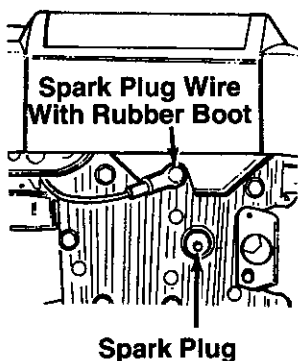

FIGURE 1.—Grounding the Spark Plug Wire
- ← Before setting up your lawn mower, disconnect the spark plug wire from the spark plug, and ground it against the engine by attaching rubber boot to a bolt on the engine. See figure 1.